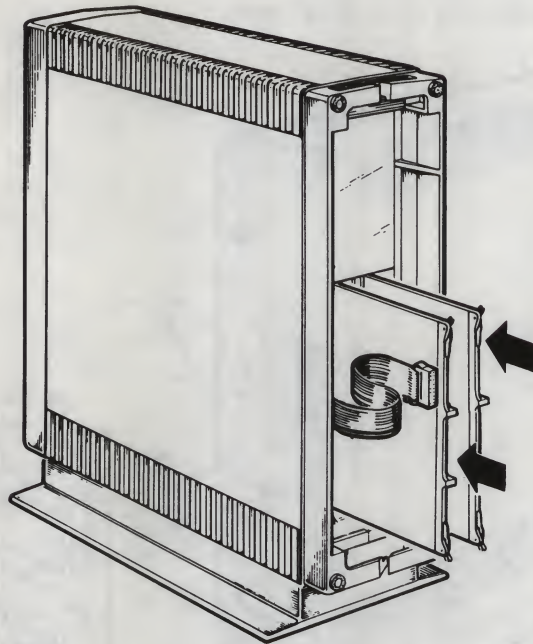

Figure 1-12 Installing Modules
- Pull the levers back and slide each board firmly in place (Figure 1-12).